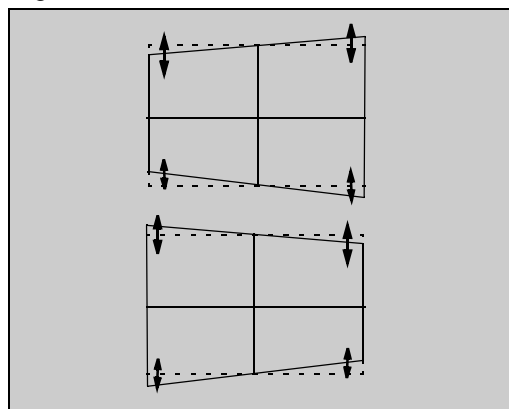

Figure 42. **KEY mode adjustment**
17. Adjust by pressing CH up-down (See Figure 42)
34. Adjust KEY (See Figure 42)